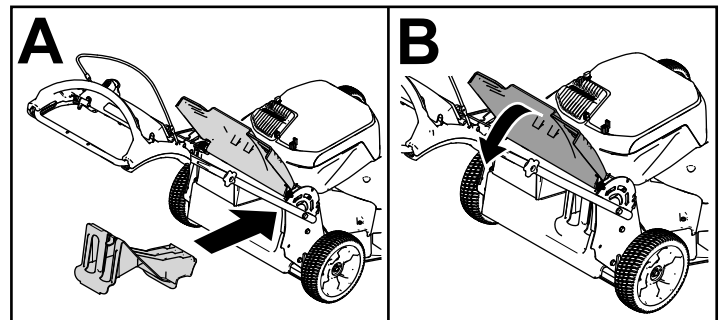

Figure 17
- If the rear-discharge plug is not installed, grip it by the handle, raise the rear deflector, and insert it into the rear-discharge chute until the latch locks into place; refer to Figure 17.
**Important:** Ensure that the rear-discharge plug is in place before you recycle the clippings (Figure 17).